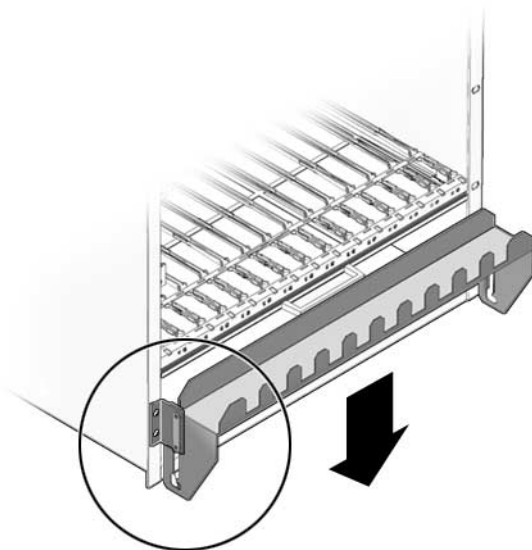

FIGURE 4-10 Front Cable Management Bracket in Lower Position
1. Move the front cable management bracket to the lower position (FIGURE 4-10).